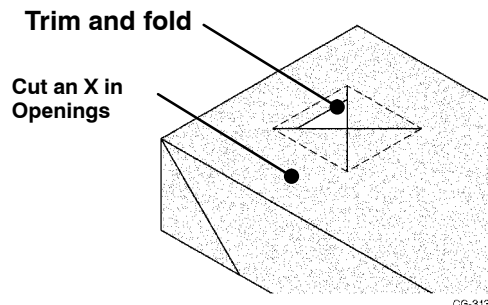

Figure 3 Cutting For Openings
8. Carefully cut an **X** from corner to corner in all openings where hardware, gages, etc. are located. Trim and fold back the film. Squeegee firmly. See Figure 3.